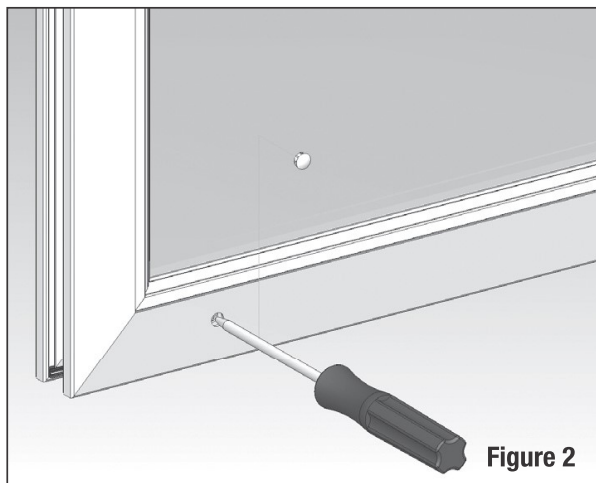

Figure 2
Make any necessary adjustments and install the finishing “plugs” on the bottom rail. See **Figure 2**.
- 2 Locate the positioning marks on the frame casings. Attach the latch with #10 - 1 1/4" screws. See **Figure 2**.